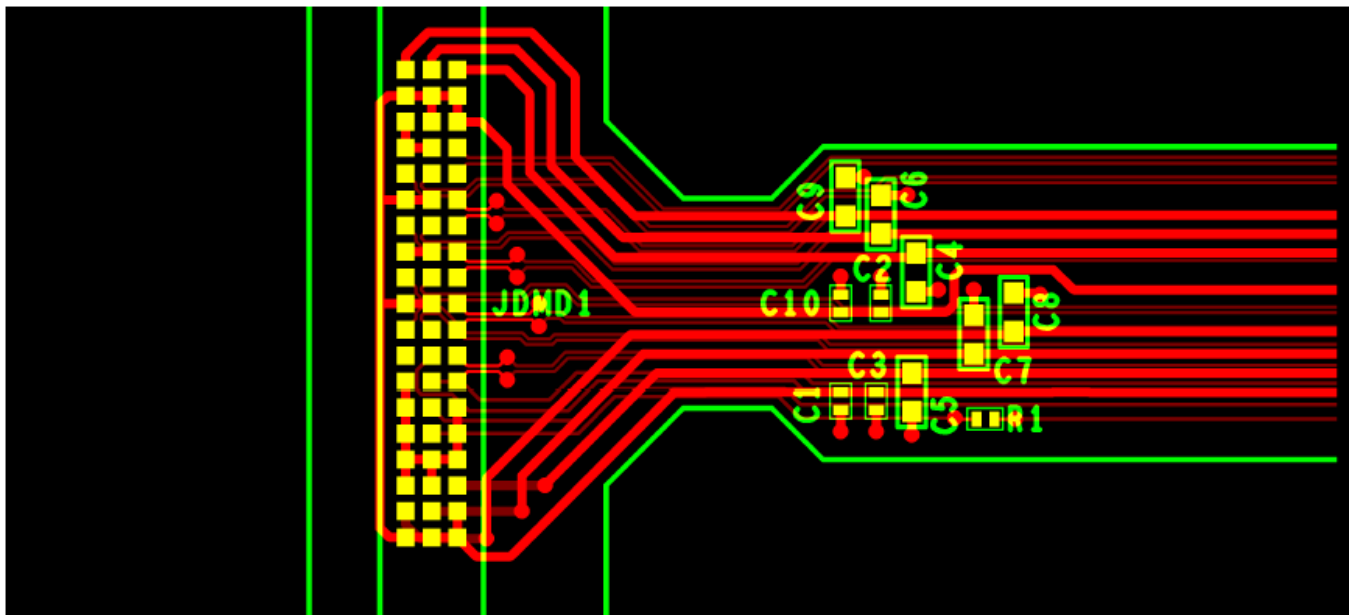

図 9. Power Supply Connections
- Minimize vias, layer changes, and turns for the HS bus signals. See Figure 9.
- Minimum of two 100-nF decoupling capacitor close to VBIAS. Capacitor C6 and C7 in Figure 9.
- Minimum of two 100-nF decoupling capacitor close to VRST. Capacitor C9 and C8 in Figure 9.
- Minimum of two 220-nF decoupling capacitor close to VOFS. Capacitor C5 and C4 in Figure 9.
- Minimum of four 100-nF decoupling capacitor close to Vcci and Vcc. Capacitor C1, C2, C3, and C10 in Figure 9.